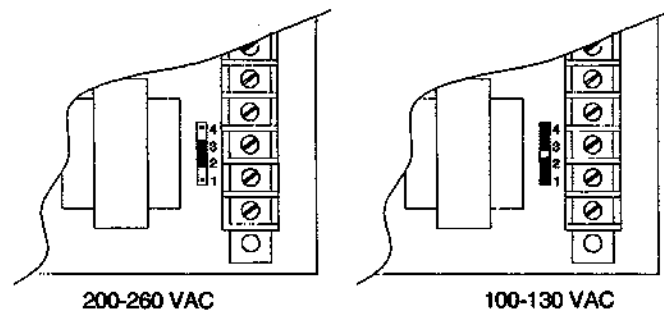

FIG. 6 Power Input Voltage Selection
2.2.2 Power Wiring — The Series 800 is normally supplied with jumpers set for 100-130VAC (47-63Hz) power input. For operation at 230VAC (200-260VAC, 47-63Hz) the two jumpers must be removed and a single jumper installed. (FIG. 6).